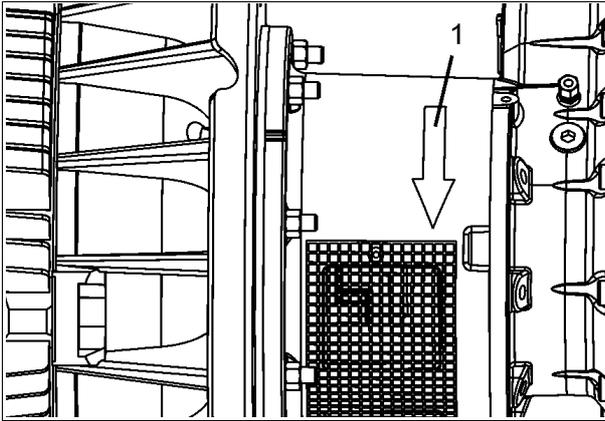

Fig. 15
- Only L90-L140: Temporarily remove the panel in order to check the direction of rotation. See (-1- Fig. 15) for the prescribed direction of rotation of the drive motor of the geared compressor. See (-1 Fig. 15 a) for the prescribed direction of rotation of the drive motor with direct drive. For the prescribed direction of rotation of the fan, see direction of rotation arrow on the fan (-3- Fig. 15 b and c).
Fig. 15 a
Fig. 15 b – Air-cooled units
Fig. 15 c – Water-cooled units